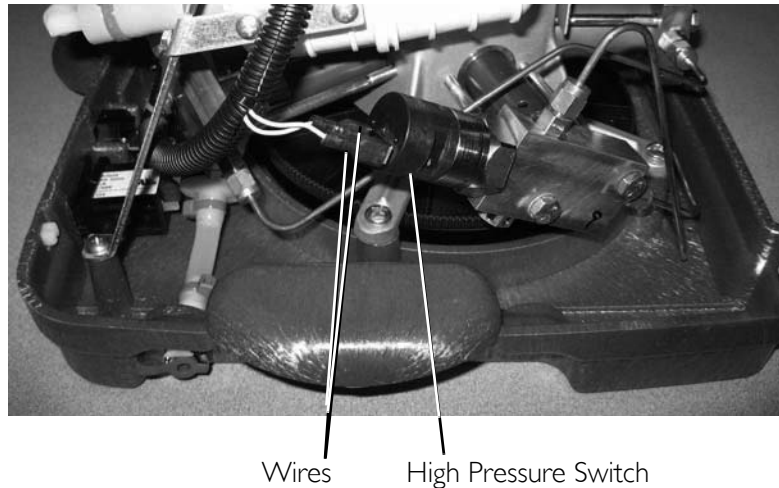

FIGURE 11.2 Timing Belt Replacement
- Disconnect the two wires from the high pressure switch (FIGURE 11.2).
17. Connect the two wires to the high pressure switch (FIGURE 11.2).